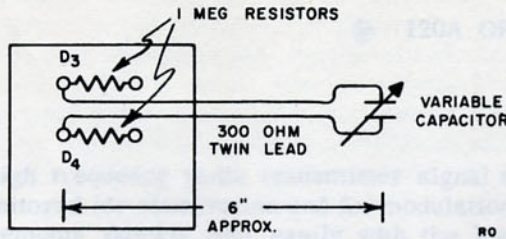
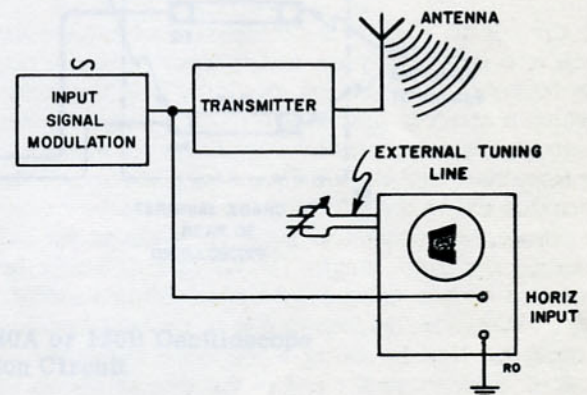

Figure 7. Rear view of 120A or 130B Oscilloscope showing connections for monitoring a transmitter signal
Figure 9. Setup for X-Y Presentation of Signals
- 1) Connect the oscilloscope as shown in Figure 7.
- 1) Connect the oscilloscope as shown in Figure 9. The oscilloscope resonant circuit is the same as shown in Figure 7.